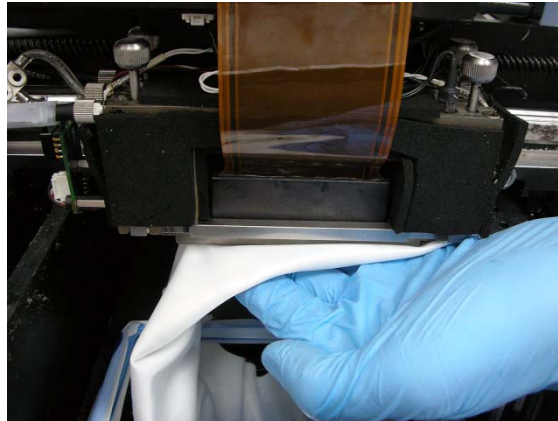

Figure 7-28: Cleaning the heads
9. Clean the orifice plates, with a back-and-forth motion (see figure 7-28). Use the mirror to make sure that you have removed all of the residue material.